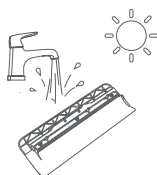

Figure 2
2. After taking it out, rinse it with clean water until it is clean (Figure. 2).